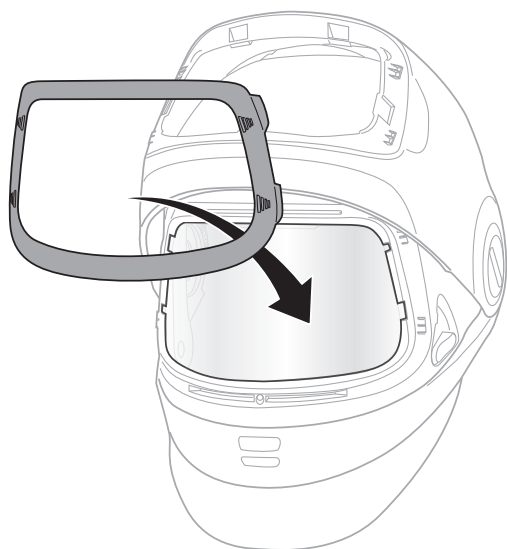

Fig. 19e
- d. To reinstall the grinding visor frame, place it over the grinding visor and snap it into place at all four corners using firm pressure from your thumb or index finger (Fig. 19e and 19f).